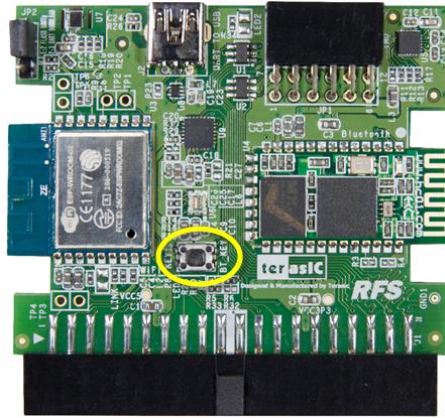

Figure 4-16 BT_KEY for enter order-response work mode (AT mode)
2. Push down and hold the BT_KEY (pull high PIO11) as shown in **Figure 4-16**.